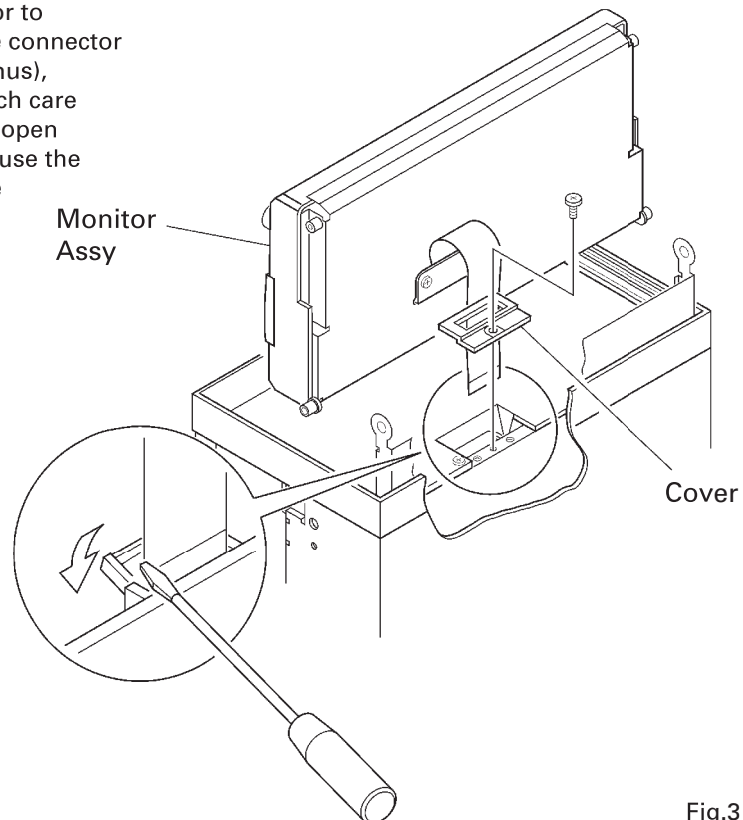

Fig.3
Do not pull the connecting flexible cable. (Fig.3)
- (3) Remove the flexible cable from the connector to remove the Monitor Assy. Push the lid of the connector up with the top of precision screwdriver (minus), and then remove the flexible cable. Take much care not to pull the connector forcibly or break it open because it is easy to be damaged. And also, use the precision screwdriver in the same way in the installation. (Fig.3)